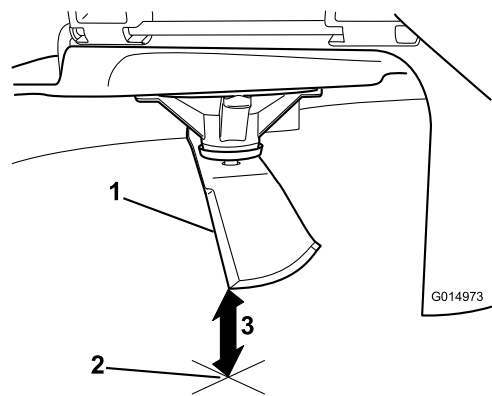

Figure 56
3. Measure from the tip of the blade to the flat surface (Figure 56).